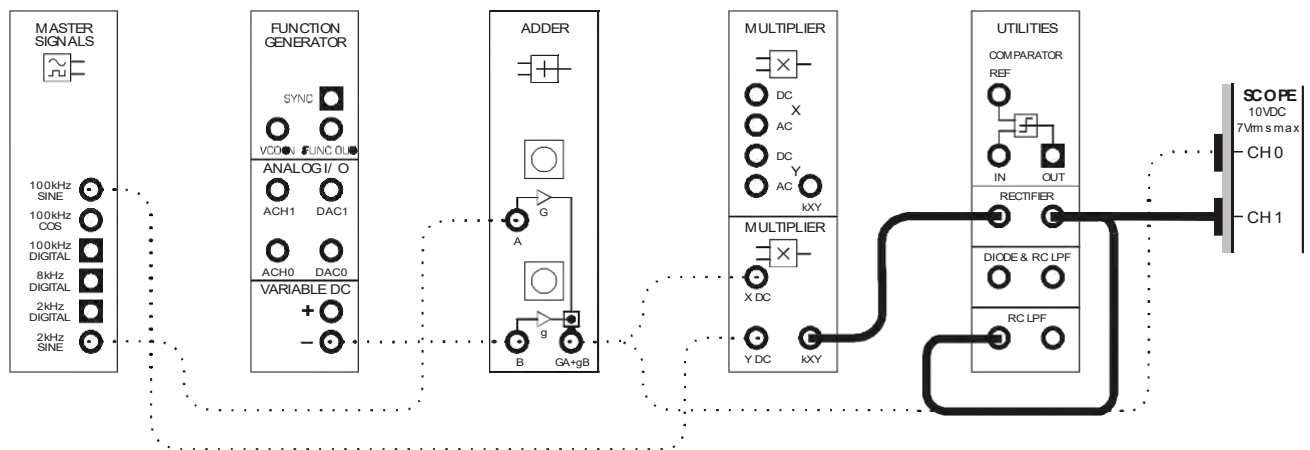

Figure 4
22. Modify the set-up as shown in Figure 4 below.